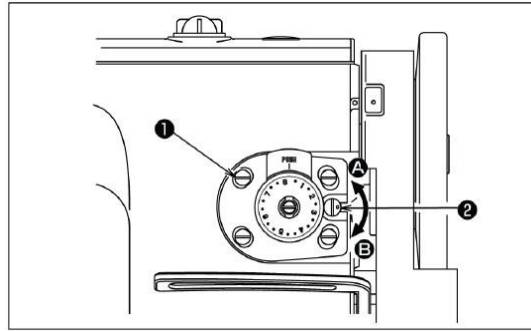

Fig.19
Loosen four mounting base setscrews (1). Turning stitch adjusting pin (2) in direction (A) increases the stitch length for forward stitching. Turning stitch adjusting pin (2) in direction (B) decreases the stitch length for reverse stitching. After the adjustment, firmly tighten the four mounting base setscrews See fig.19.